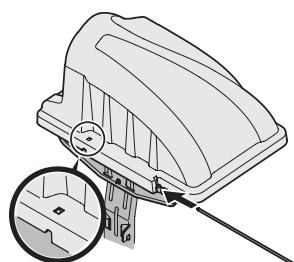
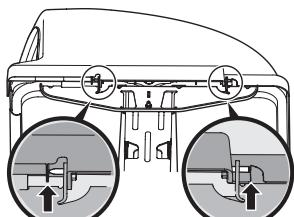

Figure 13
Figure 14
6. Slide the hinge pin (711-04988) into the hole located on the mounting tab, as shown in Figure 13. Use the cut-out window (see inset in Figure 13) to line up the hinge pin on the other side and push pin all the way in until it reaches the end-stop. At this point the pin clips into place and is secured by a tab in the bagger cover. See Figure 14.